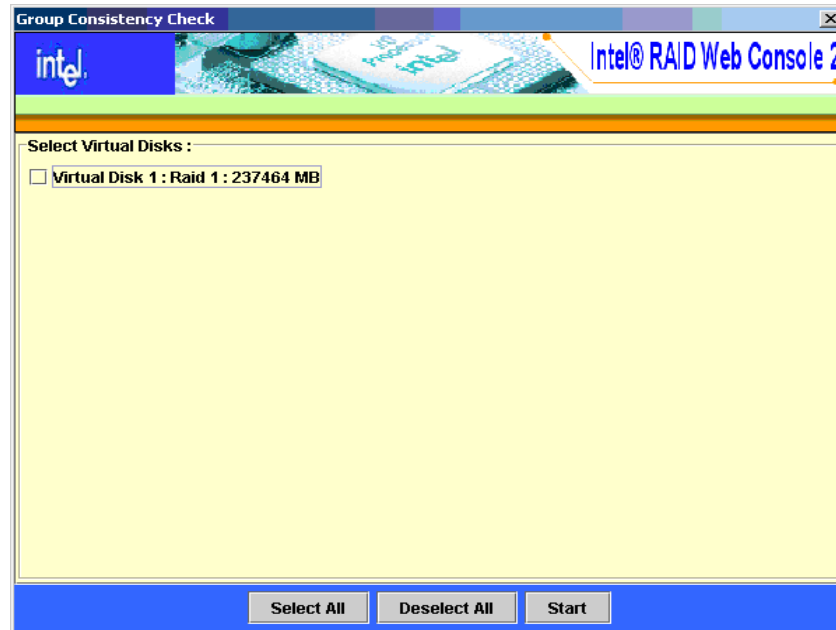

Figure 80. Group Consistency Check Window
1. Select **Group Operations | Check Consistency**. The Group Consistency Check window is displayed, as shown in Figure 80.